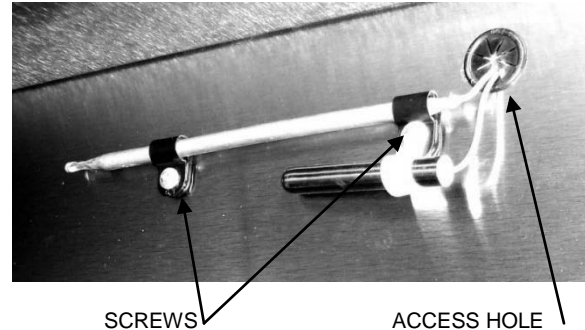

Fig. 13
2. Identify and remove the screw that holds the thermometer sensing bulb on the inside of the cabinet. *It will be mounted to the top of the cabinet.* (Fig. 13)